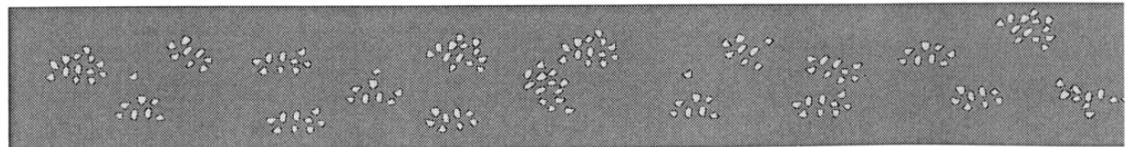

Figure 5. Random Segregation.
5. **Random Segregation:** Random type segregation is shown in Figure 5. The cause of this type of segregation is the most difficult to find. Generally, this type of segregation occurs when improper mixing is taking place either in the batch plant or drum mixer, but can also occur in other places in the process.